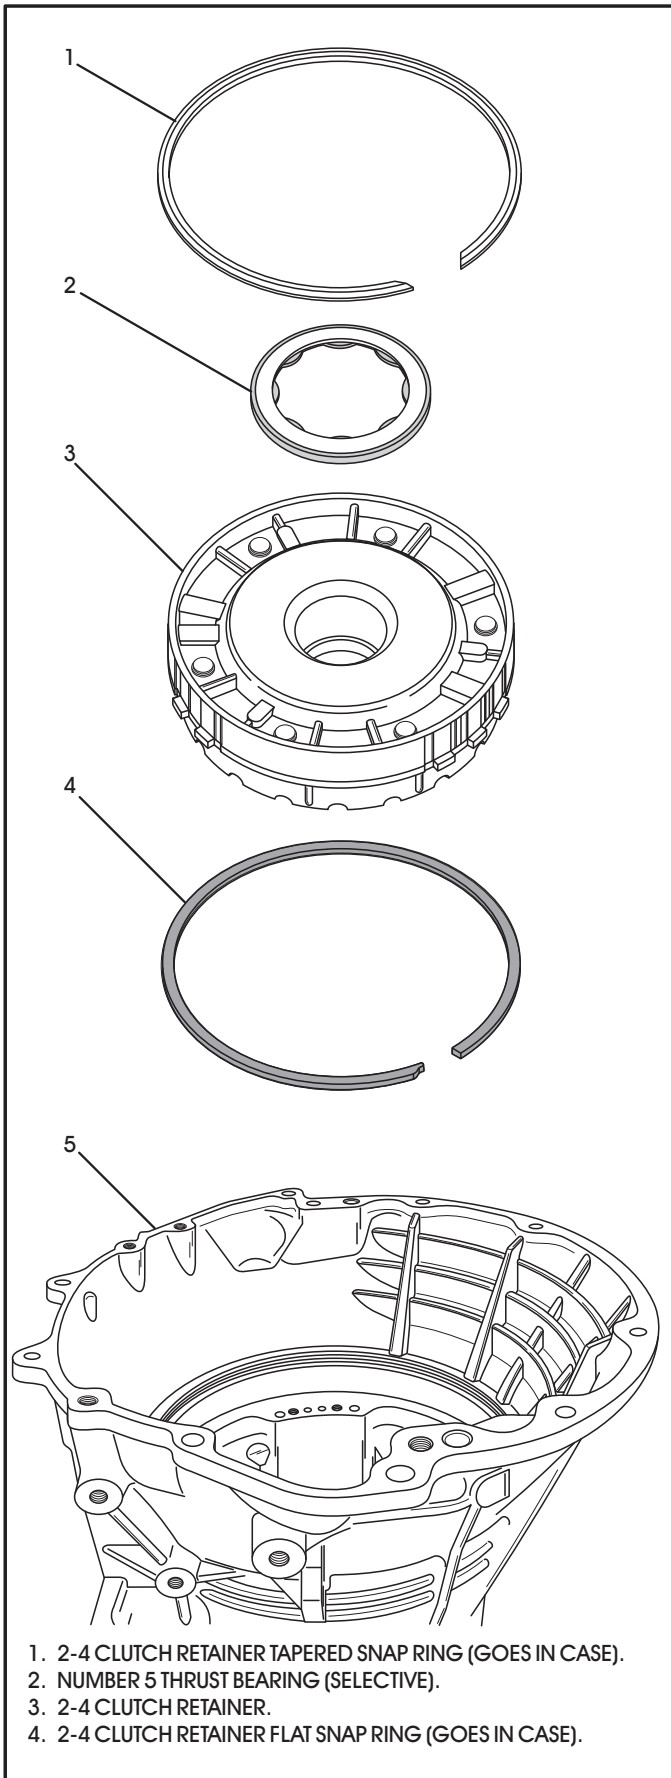

Figure 38
28. Remove the 2-4 clutch retainer front snap ring, which is a tapered snap ring, from transmission case as shown in Figure 38.
29. Remove the 2-4 clutch retainer from the transmission case, as shown in Figure 38, and set aside for component disassembly.
30. Remove the 2-4 clutch retainer rear snap ring, which is a flat snap ring, from the transmission case as shown in Figure 38.